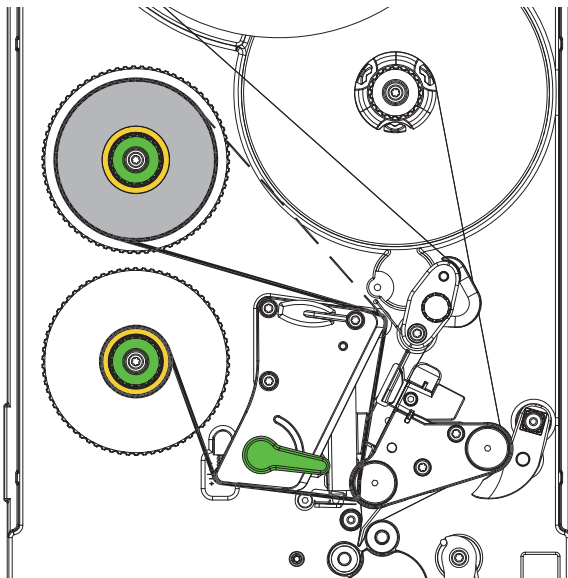

Figure 11 Transfer ribbon feed path
2. Turn lever (1) counterclockwise to lift the printhead.
3. Slide transfer ribbon roll (3) onto the ribbon supply hub (4)
4. Hold ribbon supply hub (4) firmly and turn knob (2) counterclockwise until the transfer ribbon roll is secured.
5. Slide suitable transfer ribbon core (6) onto the transfer ribbon take-up hub (5) and secure it in the same way.
6. Guide transfer ribbon through the print unit as shown in Figure 11.
7. Secure starting end of transfer ribbon to the transfer ribbon core (6) with adhesive tape. Ensure counterclockwise rotation direction of the transfer ribbon take-up hub here.
8. Turn transfer ribbon take-up hub (5) counterclockwise to smooth out the feed path of the transfer ribbon.
9. Turn lever (1) clockwise to lock the printhead.